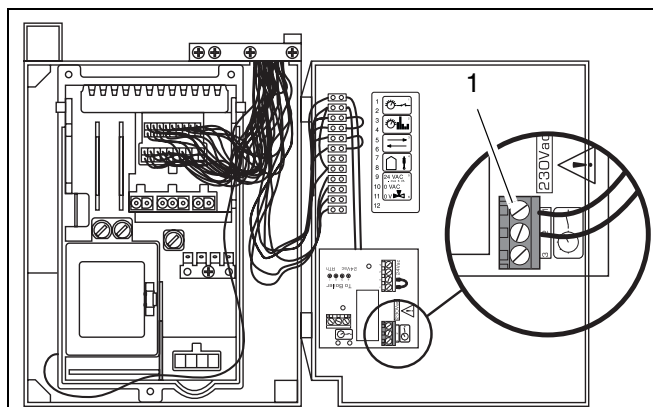

Fig. 20 Connection box in burner-control unit - 230V connection
- A room-temperature control device at 230V connected to the connection plate see fig. 20, item 1.
- Connect the 230V room-temperature control device at fig. 20, item 1.